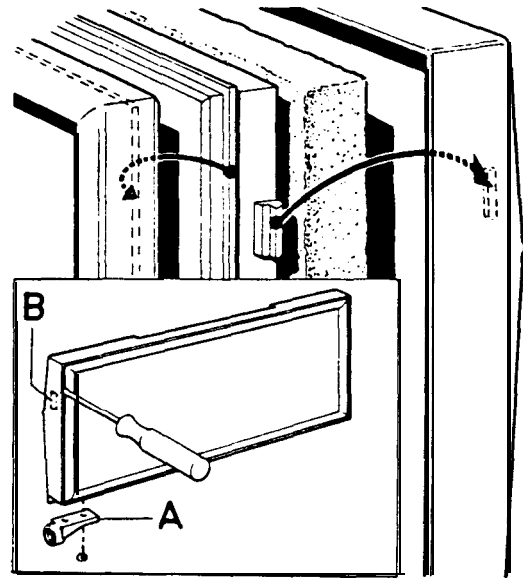

Fig. 29
2. Unscrew the hinge plates (A fig. 29).
4. Pry the shutter front away from the inner pan by means of a screwdriver (fig. 29).
**CAUTION:** It is of great importance that the screwdriver is applied in front of one of the plastic tongues (B fig. 29) which hold the inner panel and the shutter **front** together.